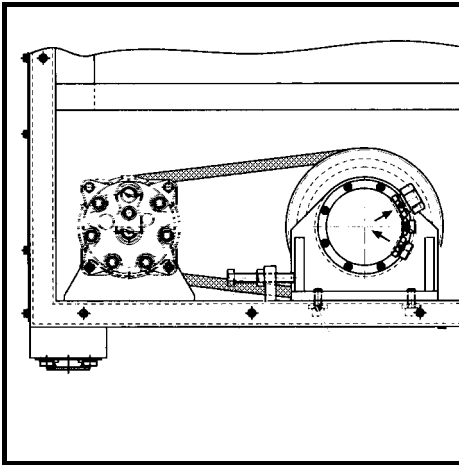

Fig. 46
- Check the V-belts of the compressor (Fig. 46) for correct tension and good condition.